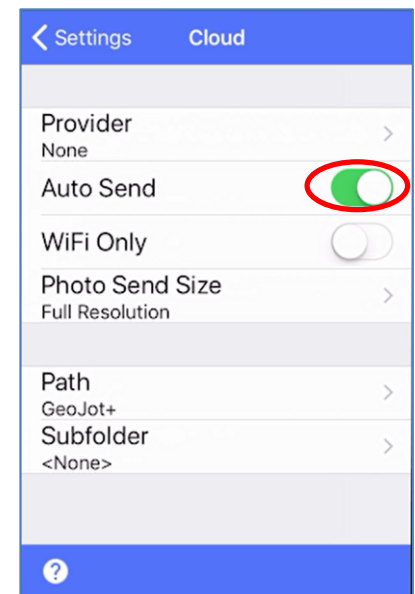

Figure 8
8. Navigate to **Settings/Cloud** and enter your parameters (Figure 8) Tap the Back arrow